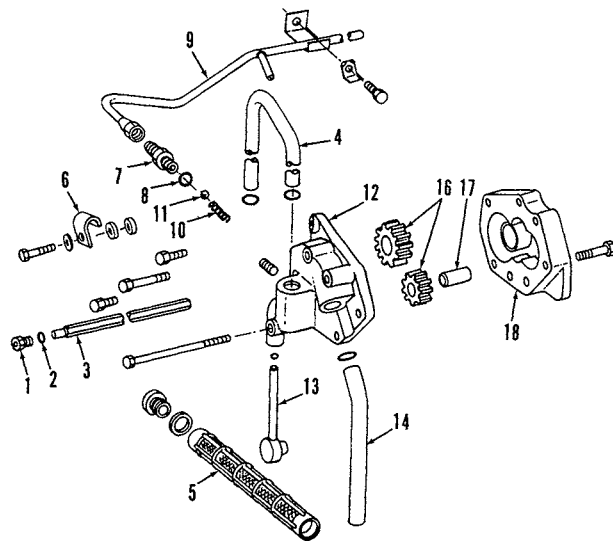

Fig. 130—Exploded view of Quad-Range transmission oil pump and associated parts used in 4050, 4250 and 4450 models.
113. TRANSMISSION PUMP. To disassemble pump, separate the manifold (12—Fig. 130 or 130A) from pump body (18) and remove pump gears (16). Clearance between drive gear bushing and mating area in pump body should be 0.002-0.005 inch (0.05-0.13 mm). Clearance between idler gear bushing and idler shaft should be 0.002-0.003 inch (0.05-0.07 mm). If gears or body are worn, they must be renewed as a complete set. When reassembling, tighten the three